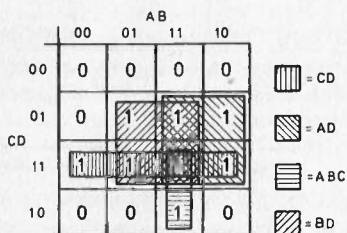

Fig. 1.8f. Map with the groups marked in
Groups that overlap each other are a very good thing, as they simplify the expression. You should make each group as large as possible and with as much overlap as possible, so long as by doing this you still enclose at least one '1' which would not otherwise have been contained in any other group. Fig. 1.8f shows the groups that we have selected. There is considerable overlap, yet only a small number of groups (considerably less than the number of terms in the original equation (1)), which is a very good thing.
As shown in Fig. 1.8f, that group is simply written as  $AD$ . All the groups can be labelled in exactly the same way, just by looking for the variables that are common to all squares in that group.
We can now write down the terms for all groups in the map of Fig. 1.8f. They are  $AD$ ,  $BD$ ,  $CD$ ,  $ABC$ .